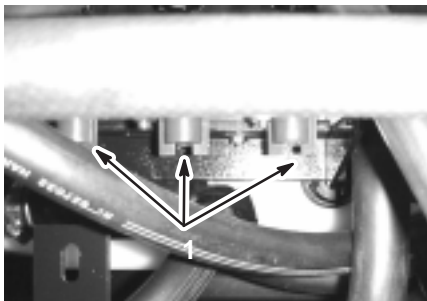

Figure 24
10. Adjust the boom bypass valve (Fig. 24) under the boom control valve for the boom you turned off until the pressure reading on the gauge is the same as it was in step 7.